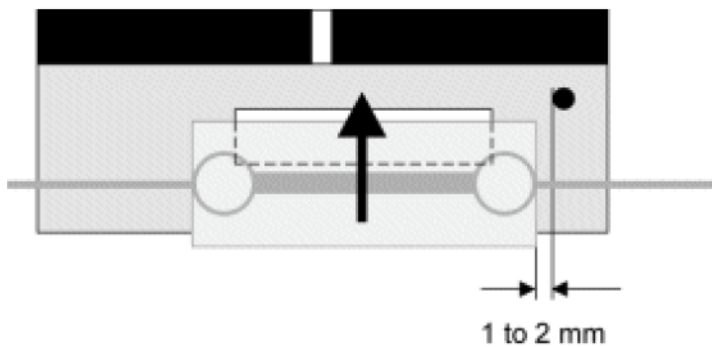

Figure 5-7: Positioning the cartridge for installation.
10. Hold the cartridge above the front positioning pins and about 1-2 mm away from the pin on the right (Figure 5-7).